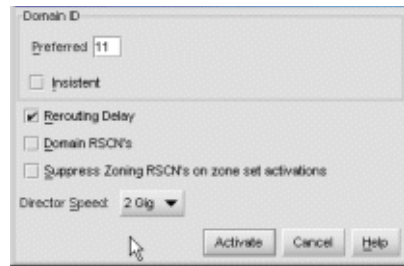

Figure 28: Configure Switch Parameters dialog box
2. Choose **Configure > Operating Parameters > Switch Parameters**. The Configure Switch Parameters dialog box displays, as shown in Figure 28.